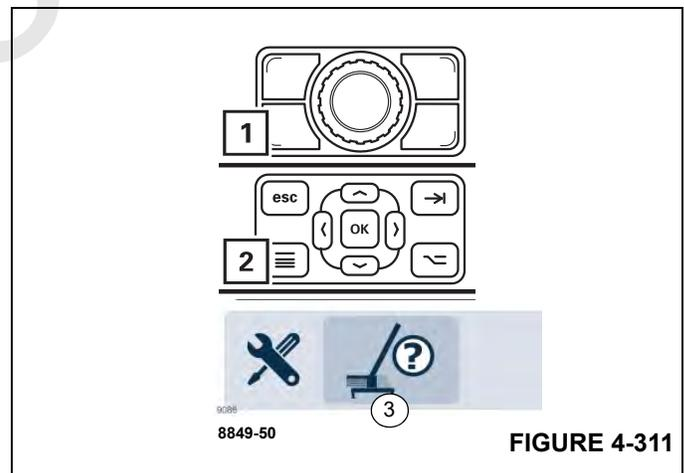

FIGURE 4-311
If you need to correct values, press the button (1), (Figure 4-311) or (2), (Figure 4-311) and open the Enter Rigging Mode (3), (Figure 4-311) Menu.